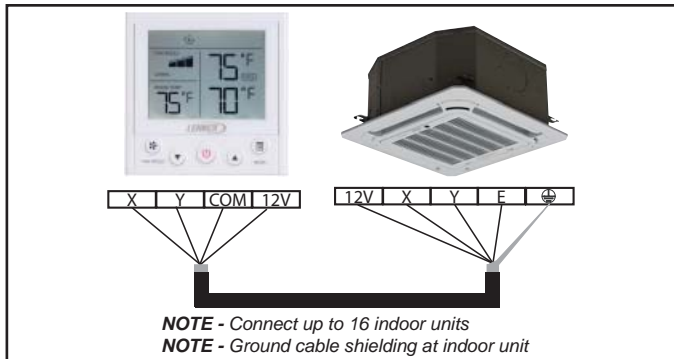

Figure 4. Wire to One Indoor Unit
6. Connect the controller to one or more indoor units, up to 16. Use 4-conductor shielded cable to connect to the first indoor unit. **NOTE** - *Wiring is polarity sensitive.* See figure 4.